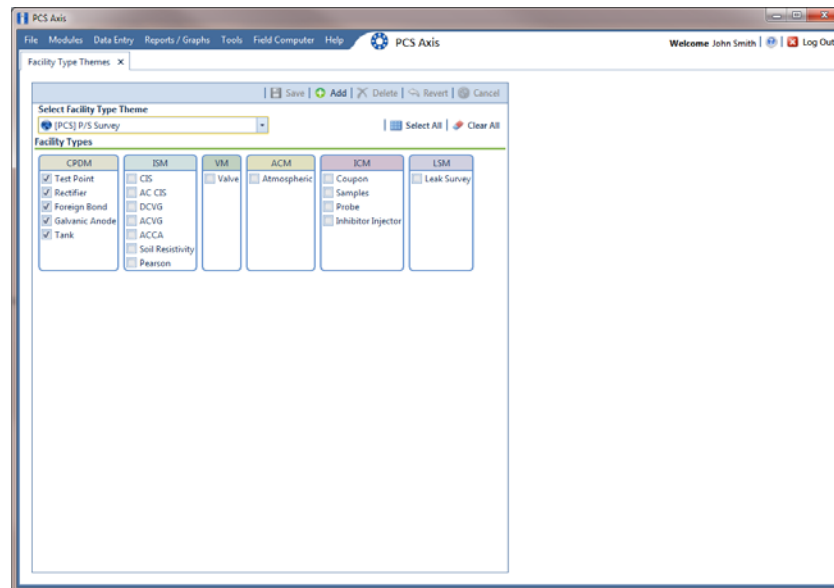

Figure 14-1. Facility Type Themes
- 1 Click **Tools** > **Facility Type Themes** to open the *Facility Type Themes* window (Figure 14-1).
- Click the check box for each facility type you want to add, then click  **Save**. A check mark inside a check box indicates a selection (Figure 14-1).